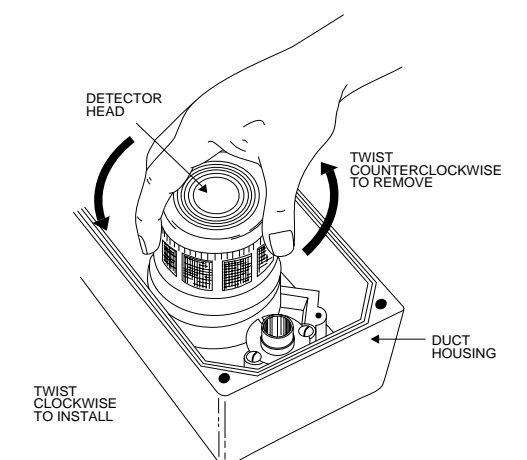

Figure 8. Detector Head Removal
4. Remove detector from housing. (See Figure 8.)
The capability of "TROUBLE" detection is tested by removing the detector head from the duct housing. The detector head is removed by turning it counterclockwise about 10 degrees (Figure 8). The system control panel should indicate a trouble condition. Reinserting the detector head should clear the trouble condition.